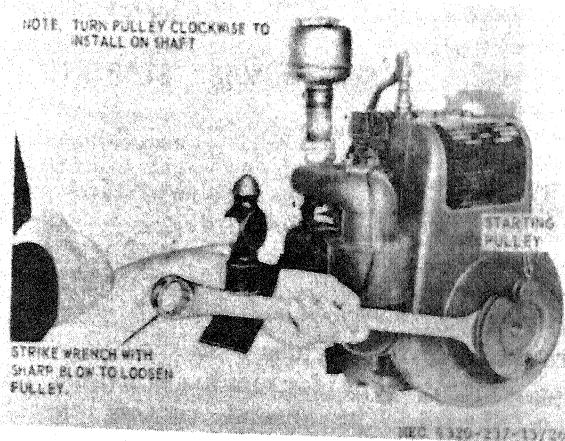

Figure 26. Starting pulley, removal and installation.
*a. Removal.* Refer to figure 26 and remove the starting pulley.
- (1) Clean the starting pulley with an approved cleaning solvent; dry thoroughly.
- (2) Inspect the starting pulley for cracks, distortion, chipped or broken pulley edges, and worn or damaged threads. Replace a damaged starting pulley.
*c. Installation.* Refer to figure 26 and install starting pulley.